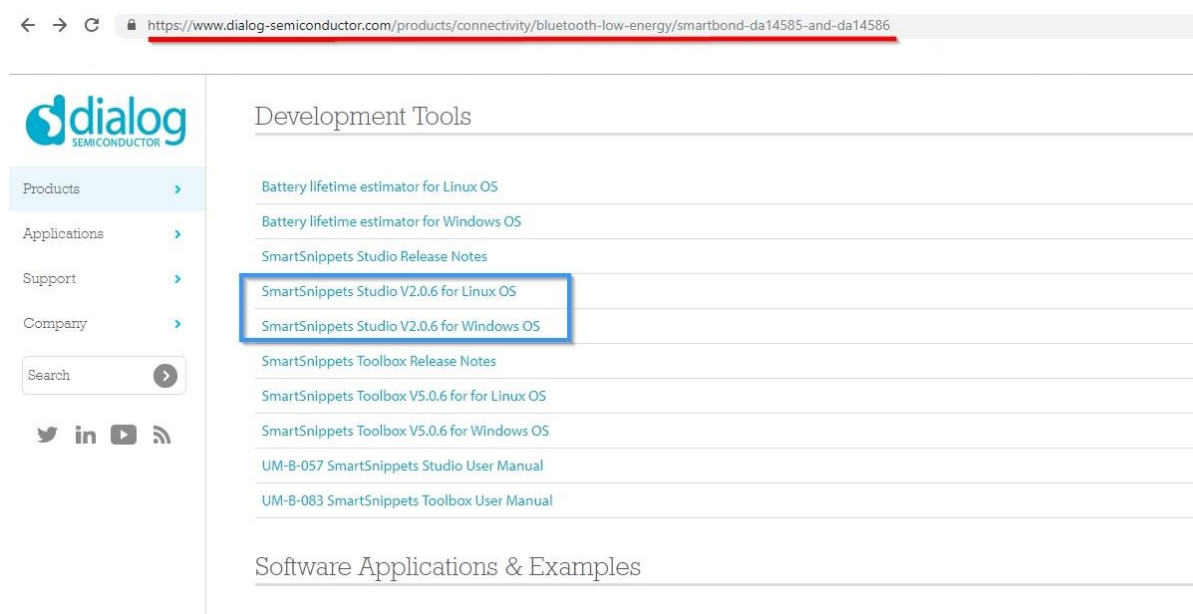

Figure 8: SmartSnippets Studio Install Link
- 1- Download the latest version of SmartSnippets™ Studio from Software and tools, as shown in **Figure 8**